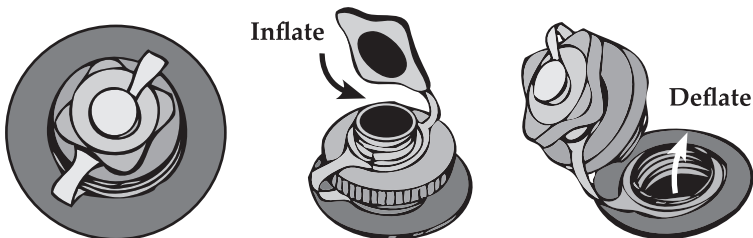

Figure 1. Inflate/Deflate Boston Valve
Advanced Elements Island Voyage™ 2 kayak uses standard Boston valves. This common valve has great function and durability and is compatible with most standard pumps. The following illustrations in *Figure 1* show how to operate your valves.
1. Locate Chamber 1. Make sure valve body is screwed in tightly. **See Figure 1.** Remove small cap and use the appropriate pump nozzle to mate with the valve. Inflate Chamber 1 until firm to the touch (2.0 psi **ONLY**).
2. Proceed to Chamber 2. Make sure valve body is screwed in tightly. **See Figure 1.** Remove small cap and use the appropriate pump nozzle to mate with the valve. Inflate Chamber 2 until firm to the touch (2.0 psi **ONLY**). Close caps on chambers 1 and 2 tightly.
3. Locate chamber 3 “floor.” Make sure valve body is screwed in tightly. Remove small cap (*See Figure 1*) and use appropriate pump nozzle. Inflate chamber until firm (1.0 psi **ONLY**). **Do not over inflate!**
1. Unscrew the valve bodies from chambers 1, 2, and 3 to allow the air to rush out. (See Figure 1)